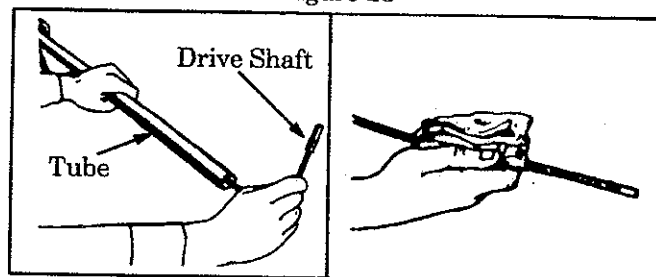

Figure 29
5. Remove drive shaft from the tube. Figure 29.
7. Using a clean cloth, wipe the drive shaft thoroughly to remove any old grease. Figure 29.
10. Replace drive shaft in the tube. Figure 29.